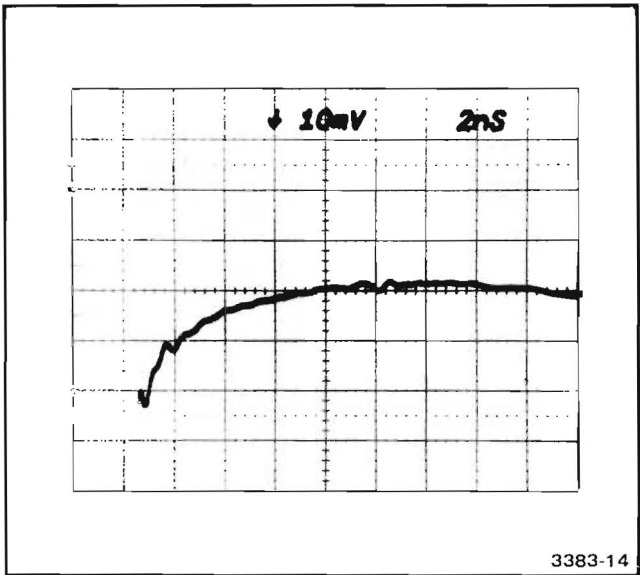

Fig. 4-4. Typical sampling oscilloscope response display.
- k. CHECK—that the aberrations are within 2% (1 div). Refer to Fig. 4-4.
- n. Position the display to measure the risetime. Refer to Fig. 4-4.
- s. Position the display to measure the waveform risetime. Refer to Fig. 4-4.